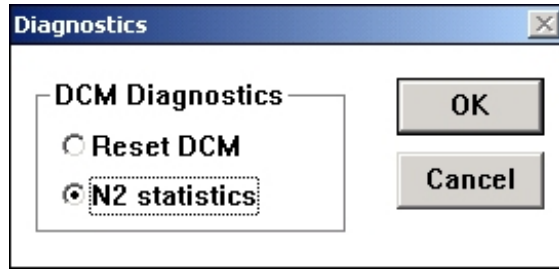

Figure 17-9: N2/L2/S2 Device Diagnostics Dialog Box
3. On the Action menu, click Diagnostics. The Diagnostics dialog box appears. The heading of the box varies according to the type of device selected in Step 2. The dialog box shown in Figure 17-9 appears for a DCM.